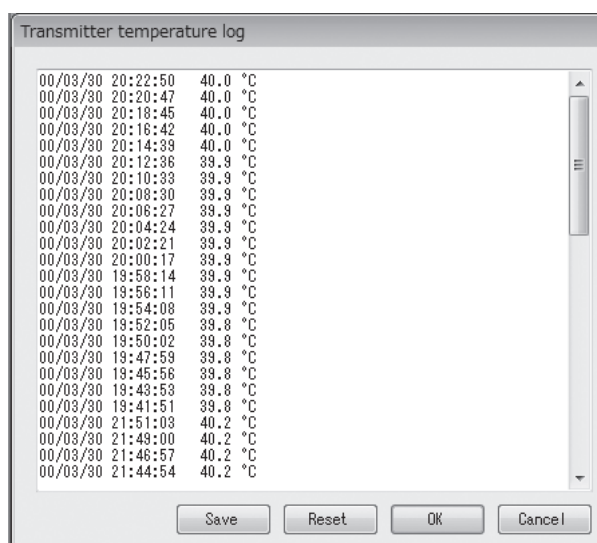
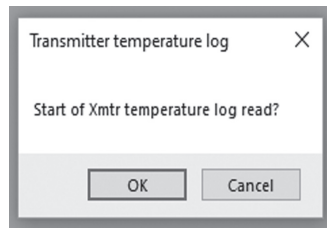

Fig.157
Fig.160
- ⑤ Click "Cancel" to close the "Error log" window.
- ① Click on "Maintenance (M)" > "Maintenance transmitter" > "Transmitter temperature log" in the menu.
- ② The following window will be displayed (Fig. 157).
- ⑤ Also, to display the most recent log entry, click the "OK" button in the screen shown in Fig. 157 to display a message box (Fig. 160).